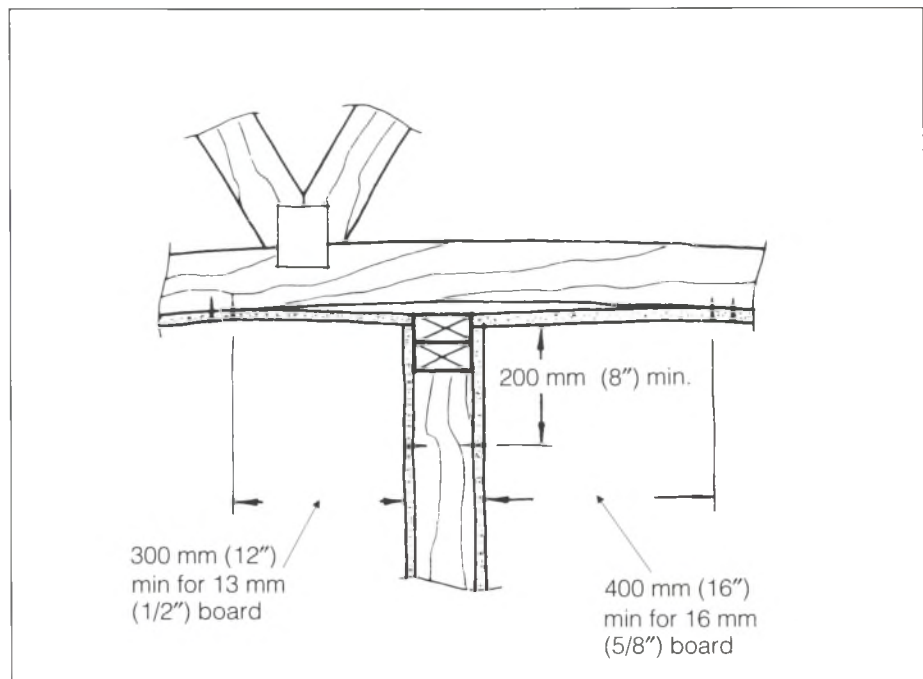

Fig. 8. Floating corners
- Use "floating corners" to hide the effects of truss uplift. Fasten both the ceiling drywall and the partition wall drywall away from the corner joint (fig. 8). This technique uses the natural flexibility of drywall to allow uplift of 50-75 mm (2-3") to occur without cracking the corner joint. Recommended minimum float distances are: